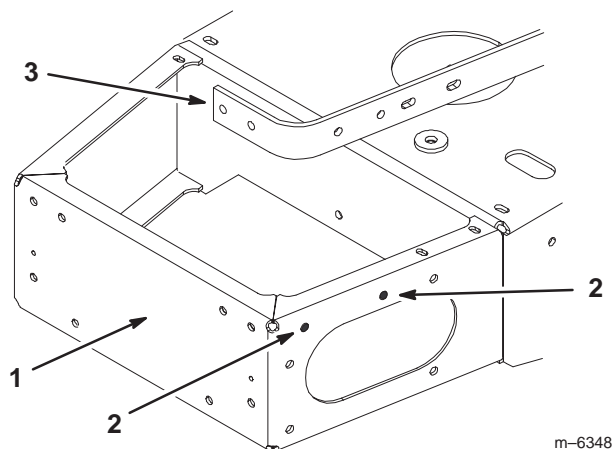

Figure 4
Check for exiting holes in the side of the bumper (Fig. 4). Perform the following procedures if holes **do not** exist.
5. Mark and center punch the 2 hole locations on both sides of the bumper (Fig. 4).